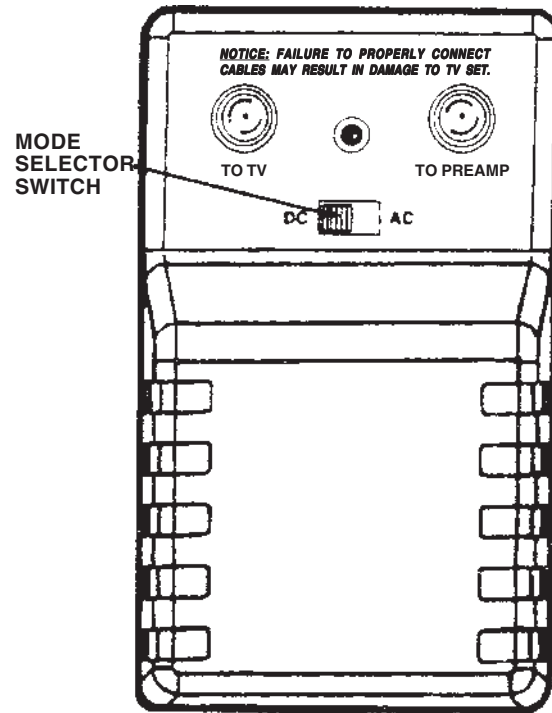

Figure 6
**DC Operation:** Move the "mode selector" switch to the "DC" position. See Figure 6. **If red LED light does not light, check cable for short.**